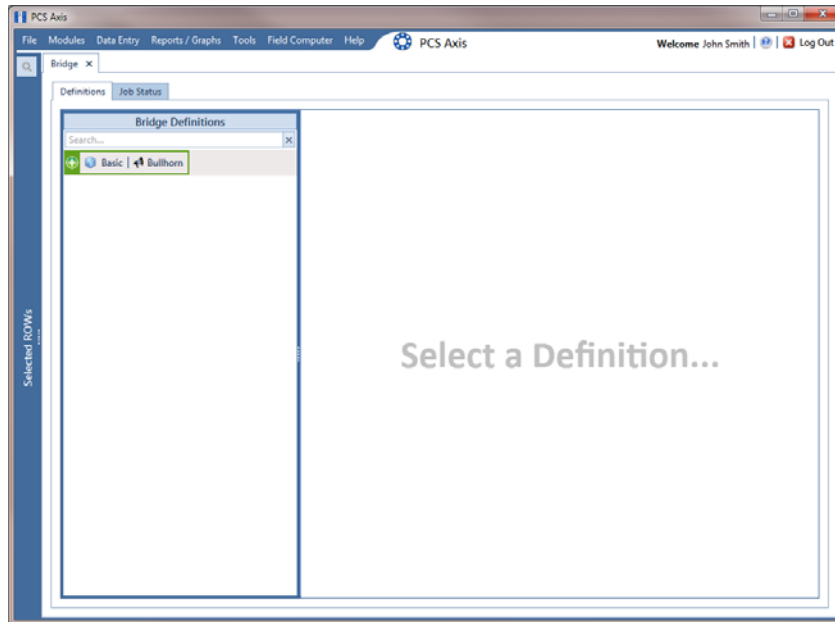

Figure 10-4. Bridge
- 2 Click **Tools** > **Bridge** to open the *Bridge* window (Figure 10-4).